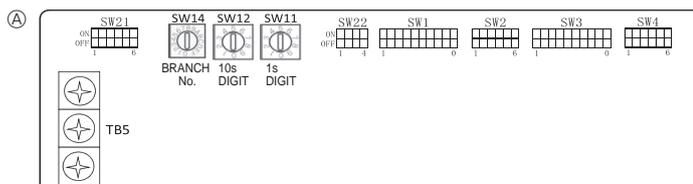

Fig. 5-9
5.5. Setting addresses (Fig. 5-9)
- (A) Address board
5.6. Switch setting for high ceiling or at the time of changing the number of air outlets (Fig. 5-9)
5.7. Sensing room temperature with the built-in sensor in a remote controller (Fig. 5-9)